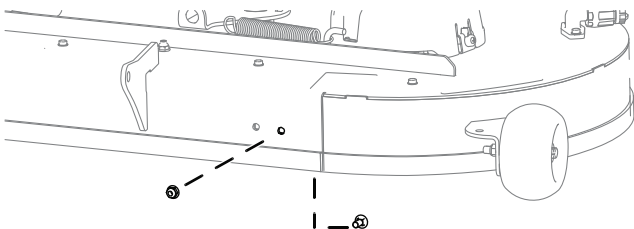

Figure 2
2. Secure the left side of the baffle to the deck using 1 carriage bolt (5/16 x 3/4 inch) and 1 flange nut (5/16 inch) as shown in Figure 2. Tighten the fasteners by hand.